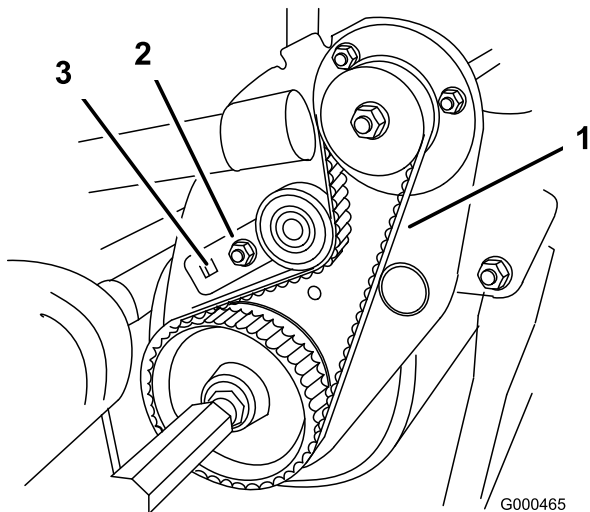

Figure 41
- B. Using a 3/8 inch drive torque wrench, rotate the idler bracket with 75-85 in.-lb. of torque to set the belt tension (Figure 41). While holding the torque wrench setting, tighten the idler bracket mounting bolt (The tang washer is installed to prevent the belt from slipping). Do not over-tension the belt.